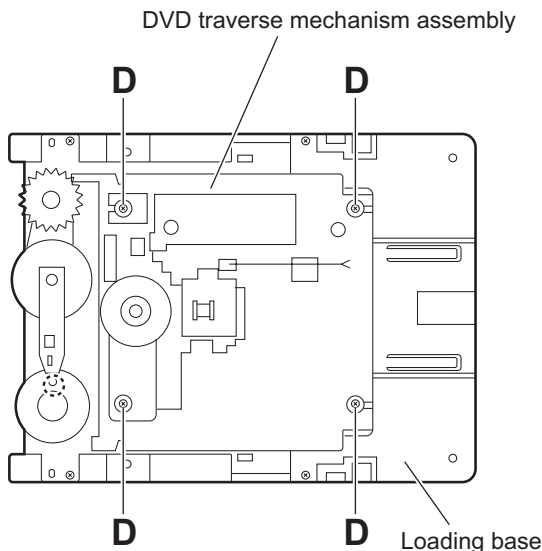

Fig.7
2.3.7 Removing the DVD traverse mechanism assembly (See Figs.7.)